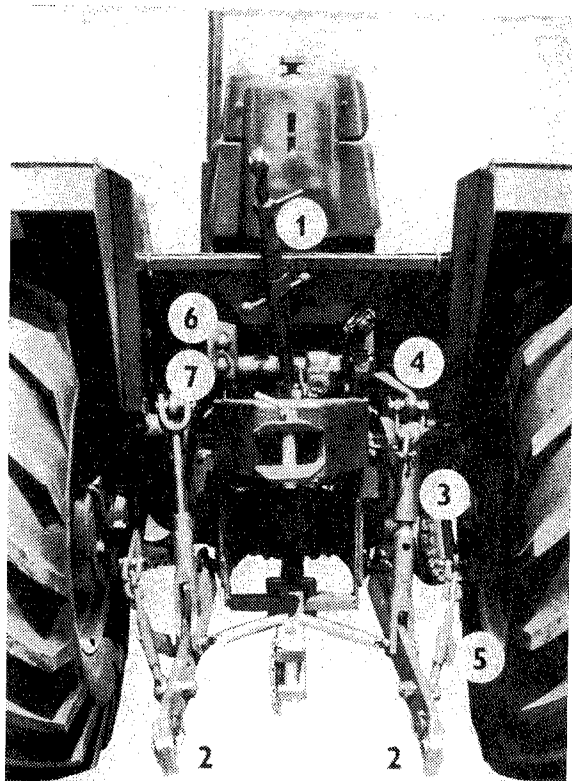
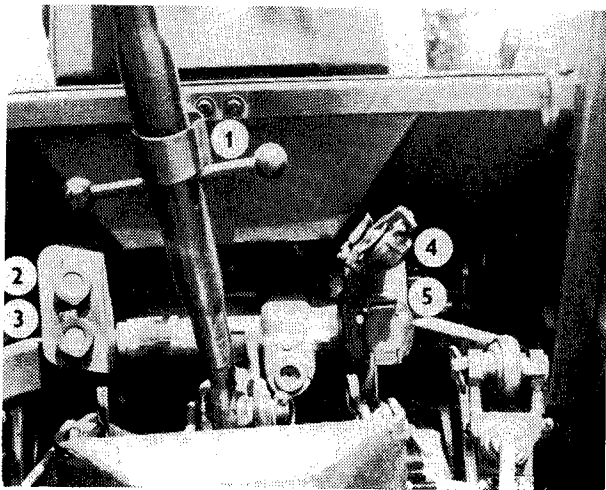
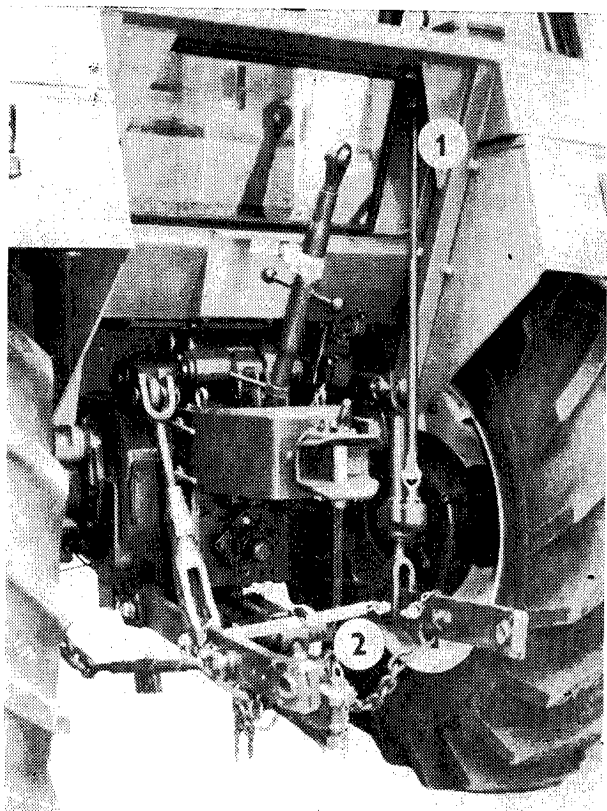

Fig. 24
Fig. 25
Fig. 26
- A similar target designation can be found on the quick coupler (Fig. 24/6, 7), it designates pressure oil supply upon raising.
supplies pressure oil to machines and implements having their own hydraulic cylinders outside the tractor, both single-acting (hydraulically controlled hoes etc.) and double-acting (loaders, cutter bars, hydromotors etc.). This circuit is provided with two outlets having each a quick coupler (quick coupling device) at its end (Fig. 24/6, 7, 25/2, 3).
- outlet 1 — is attached (coupled with) to single-acting cylinders (Fig. 24/6, 25/2),
- outlet 2 — is attached (coupled with) to double-acting cylinders (Fig. 24/7, 25/3).
The above cylinder is connected with outlet „1” (Fig. 24/6 and 25/2) and „2” (Fig. 24/7 and 25/3) in such a way that outlet „1” is intended for pressure oil when raising and outlet „2” when lowering. The flow direction is designated on the hydraulic cover by arrows.
The three-point hitch represents an outer coupling device serving for attaching agricultural machines and implements. It consists of an upper link being longitudinally adjustable (Fig. 24/1) and two lower links (Fig. 24/2) which are attached by a RH and LH strut (Fig. 24/3) to the hydraulic lifting mechanism arms (Fig. 24/4). The RH strut is longitudinally adjustable — without disassembling — by means of a crank, bolt and nut, whereby RH lower link is vertically adjustable. The upper link as well as lower links
are provided with ball joints and openings enabling lower links ends to (sway) swing by ± 125 mm. By changing the length of the tension nut (Fig. 24/5), a lower links sway can be adjusted within the whole hydraulic mechanism lift. As long as the tractor is without any attached (coupled) implement, the upper link can be hanged onto a flexible holder (Fig. 25/1). The tractor provided with a safety cab can be optionally equipped with a longitudinally adjustable RH strut (from the driver's seat) by means of a crank located in the cab (Fig. 26/1). When working without implements, it is necessary to couple lower links by aprings (Fig. 26/2).